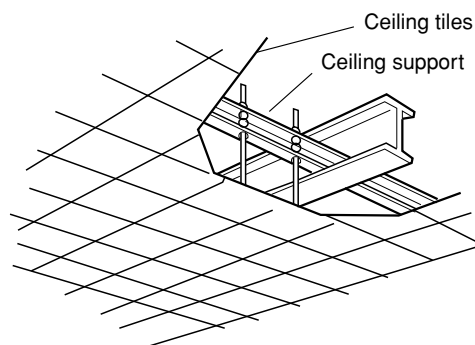

Fig. 3-4
- Use existing ceiling supports or construct a suitable support as shown in Fig. 3-4.